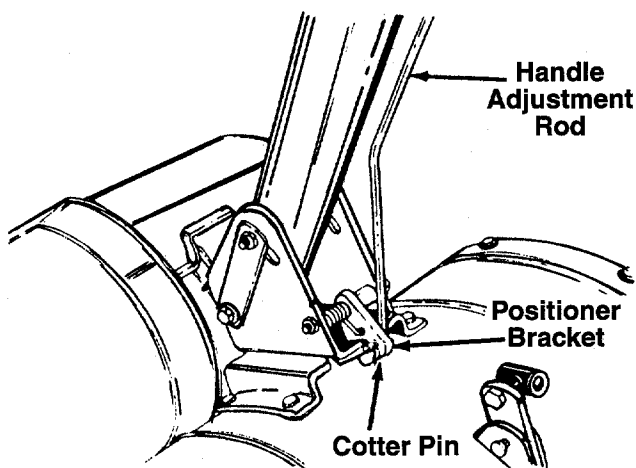

FIGURE 10.
4. With the handle adjustment rod beneath the handle assembly, insert the hooked end of handle adjustment rod into the positioner bracket, from right hand outside in, as shown in figure 10. Secure with cotter pin, bending ends of pin in opposite directions.